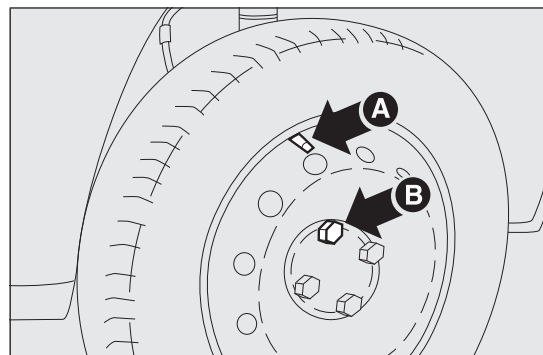

fig. 124
- ❑ fit the standard wheel by inserting the first bolt two threads B fig. 124 into the hole closest to the inflation valve A;